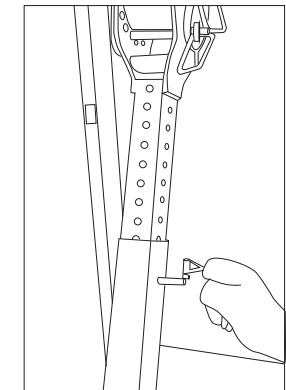

Fig 16
5. Pin Adjustable Outer Sleeve (Fig 16).